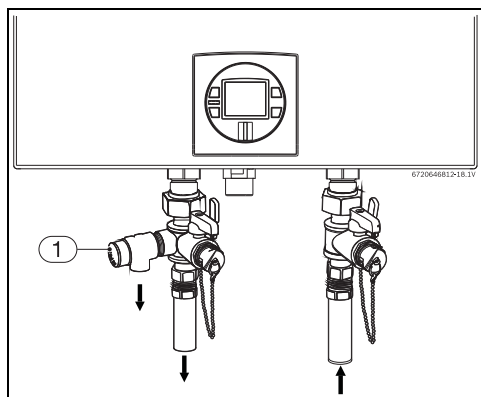

Fig. 34 Plumbing Connections (with shutoff valves) and Pressure Relief Valve
- Full port shutoff valves should be installed on both the cold water supply and hot water outlet lines to facilitate servicing the heater (see fig. 34).
A listed pressure relief valve must be installed at the time of installation. No valve is to be placed between the PRV and the heater. No reducing coupling or other restriction may be installed in the discharge line. The discharge line must be a minimum of 4" above a drain and installed such that it allows complete drainage of both the PRV and the line. The discharge line must be placed where it will not cause any damage. The location of the PRV must be readily accessible for servicing or replacement, and be mounted as close to the water heater as possible. See fig. 34. To install the PRV, a suitable fitting connected to an extension on a "T" fitting can be sweated to the hot water line.